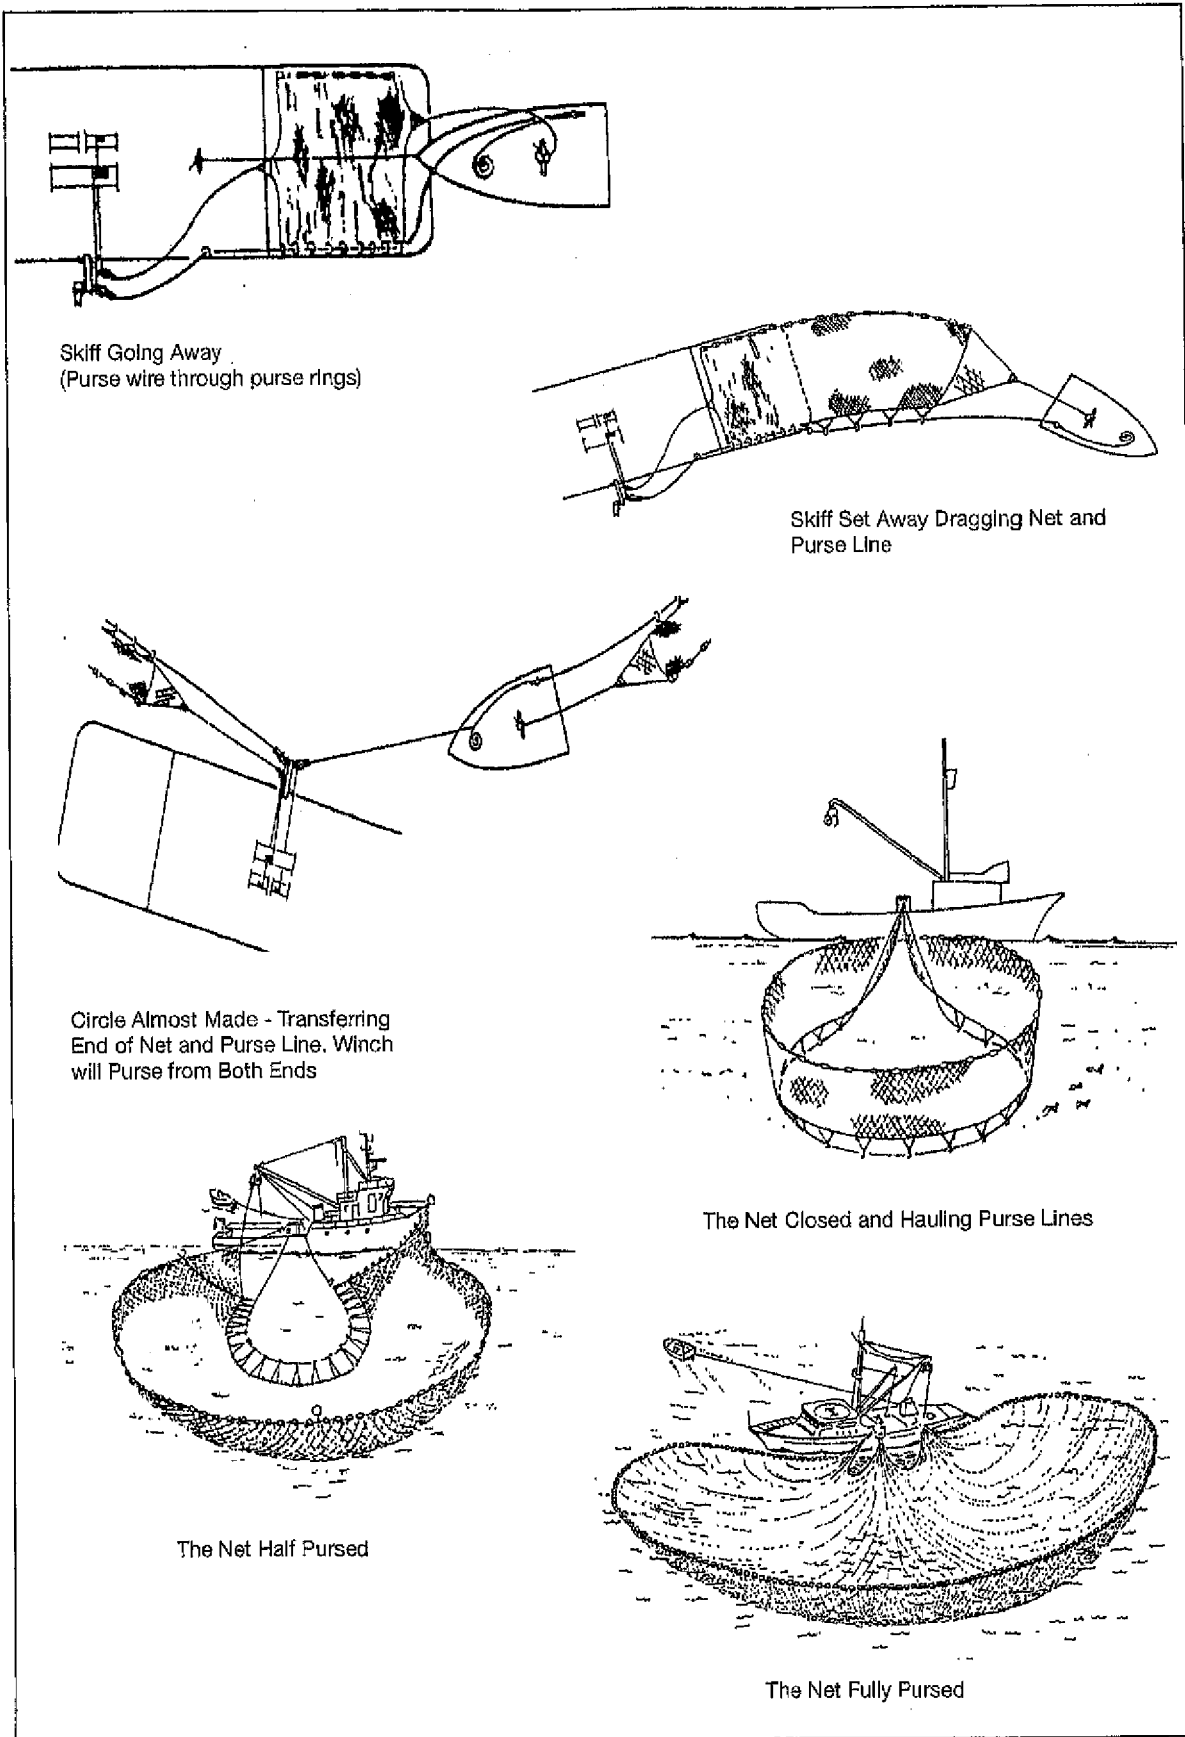

Fig 2.7 The Purse Seine Operation 1
- Figures 2.7 and 2.8 show the purse seine process used for setting and pursing the net on the larger US purse seiners which work in Pacific waters. With reference to these figures the procedure is: -